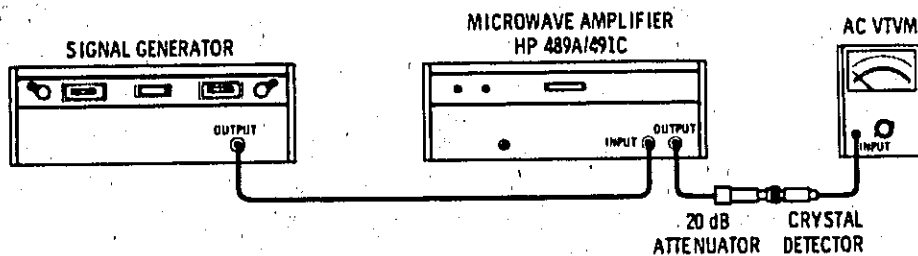

Figure 4-4. Residual AM Test Setup
1. Connect equipment as shown in Figure 4-4, and set the controls as follows: